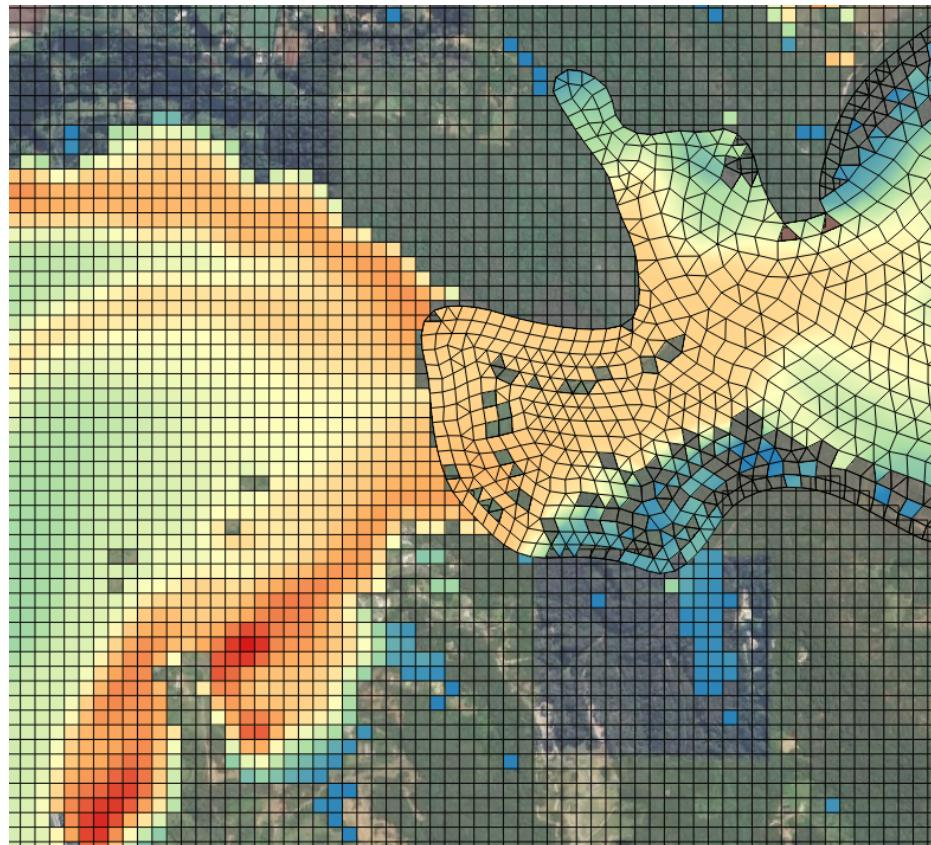

Figure 1.2: \*\*Example of using the QGIS TUFLOW CATCH plugin to view combined results\*\*
- **Results viewing.** TUFLOW CATCH has its own freely available QGIS plugin to support viewing and interrogation of combined TUFLOW HPC and TUFLOW FV results, as a single data set, such as Figure 1.2